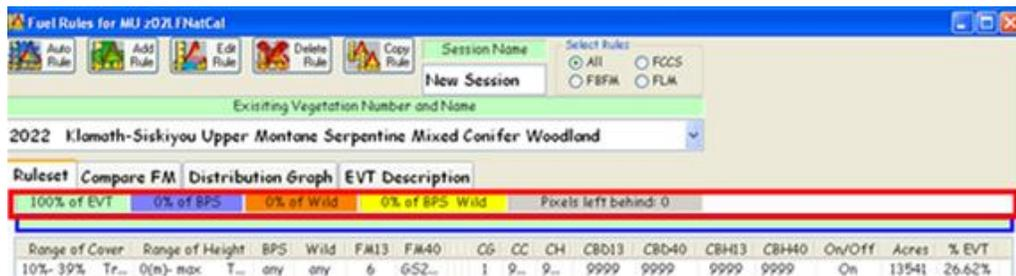

Figure 7-25. **Ruleset** page tab indicators.
**Tip:** Click in the boxes at the top of the columns you are **not** interested in viewing to collapse those fields to more easily view the columns you do wish to work with. Click again on the collapsed columns to expand them. You can also resize the rule set headings or the windows themselves to better display your selections (fig. 7-25).
The **Ruleset** page includes tab indicators for **percent of EVT**, **percent of Bps**, **percent of Wildcard**, and **Pixels left behind** as shown (fig 7-25).